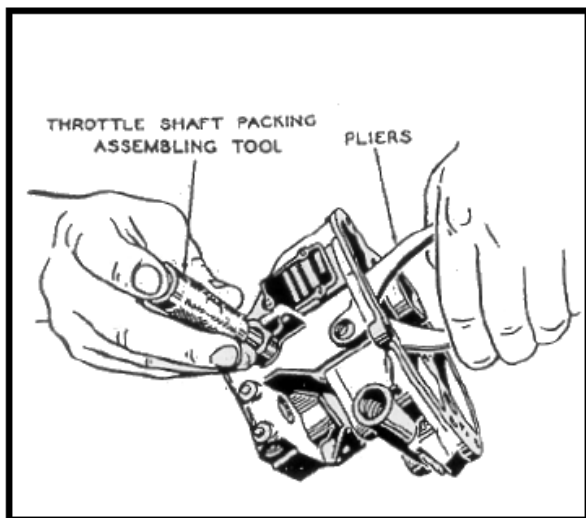

Figure 2-21. Installing Inside Throttle Shaft Packing
- e. Insert the throttle shaft packing tool arbor (13, figure 2-17) through the throttle shaft packing (69, figure 2-19) with a throttle shaft packing retainer (68) on the outside of the packing. Hold the packing in position for insertion into the inside wall of the throttle body with pliers. (See figure 2-21.)
- f. Insert the end of the throttle shaft packing tool (12, figure 2-17) into the throttle shaft packing tool arbor (13) and drive the throttle shaft packing into the throttle shaft bore until the throttle shaft packing retainer is secure in the throttle shaft bore. (See figure 2-21.) Remove the throttle shaft packing tool and throttle shaft packing tool arbor from the throttle shaft bore.